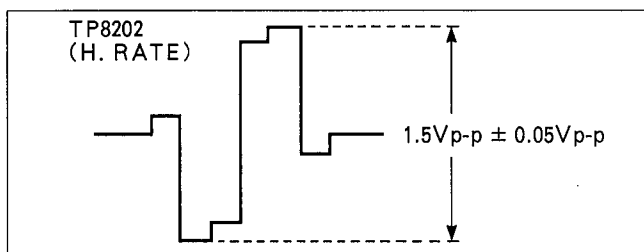

Figure E21-A
2. Adjust VR8204 so that the level becomes 1.5Vp-p \pm 0.05Vp-p as shown in Figure E21-A.